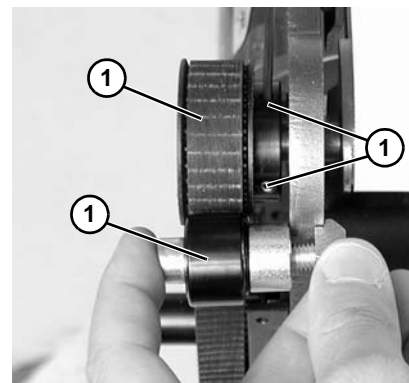

Figure 14
8. Remove cam bearing and spacer (Figure 14, item 1).
9. Place the cam bearing and spacer (Figure 14, item 1) next to the driven pulley (Figure 14, item 1). Ensure the flanges of the driven pulley are aligned with the cam bearing. Tighten set screws on driven pulley (J). This will allow for proper belt alignment while conveyor is in use. Install cam bearing and spacer (U).